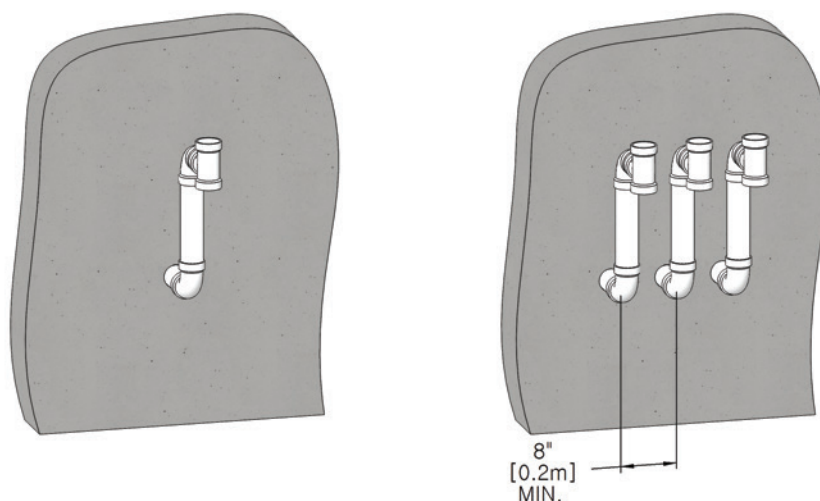

Figure 6: Sidewall vent termination - indoor combustion air applications
- The vent shall be terminated with a tee fitting as illustrated - See Figure 6.